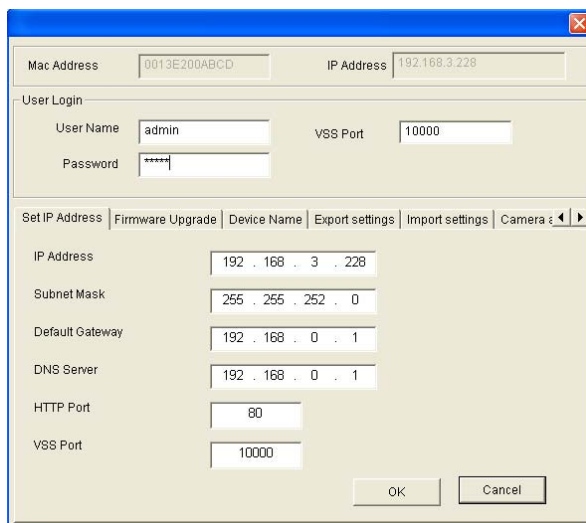

Figure 6-3
2. Double-click the GV-Video Server in the list. Figure 6-3 appears.
1. In Figure 6-3, click the **Import Settings** tab. This dialog box appears.